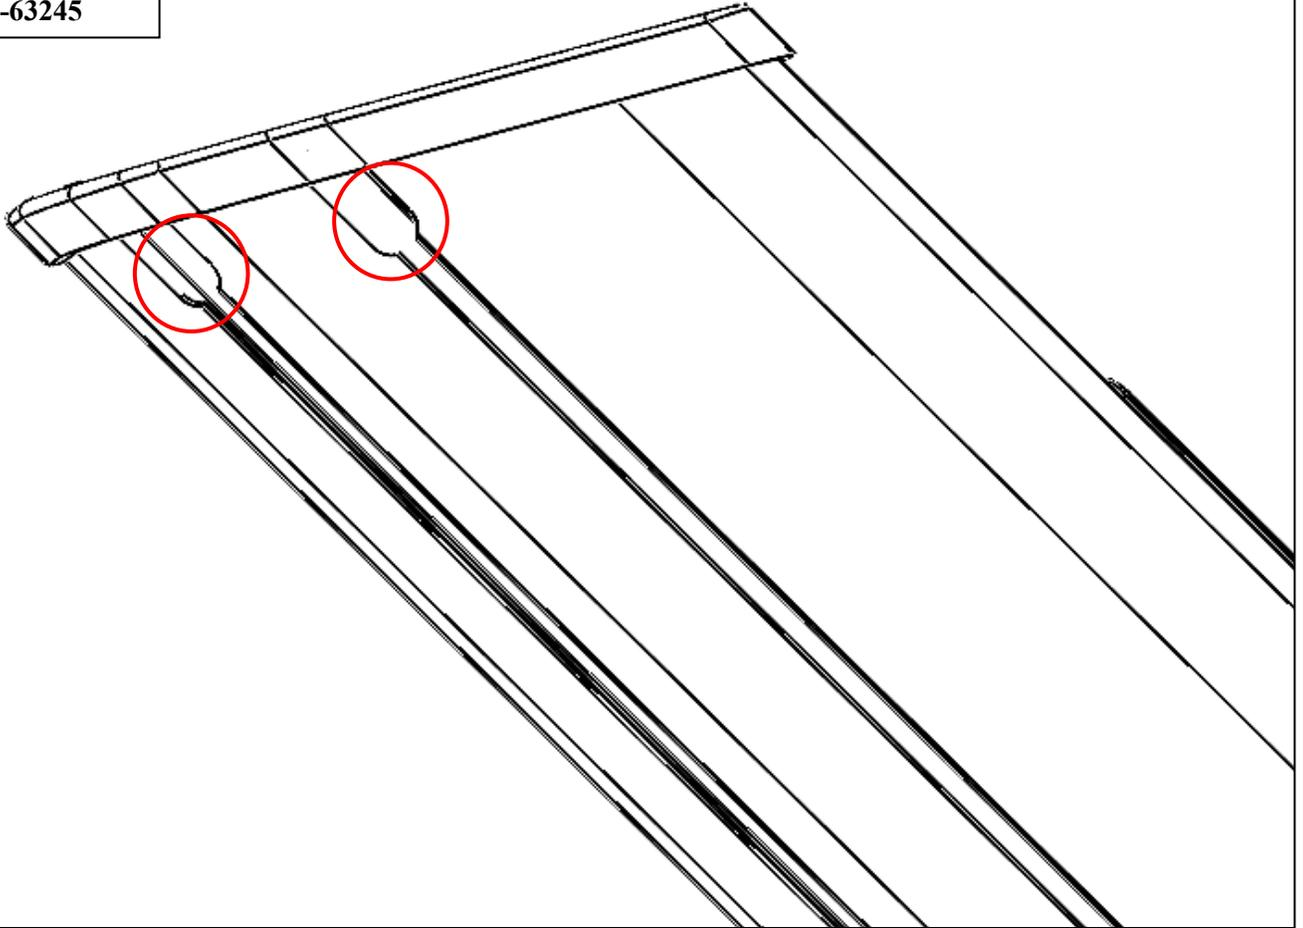

Figure 6
8. Slide (3) M8 Square Head Screws (Item 9) into each of the rails underneath the running board. See **Figure 6**.